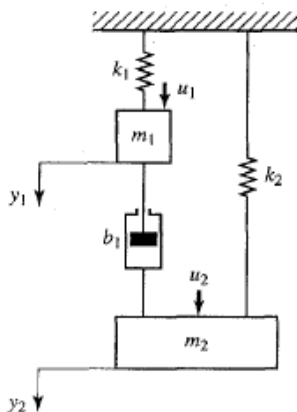

Figure 3-80
30. Obtain a state-space representation of the mechanical system shown in Figure 3-80, where u_1 and u_2 are the inputs and y_1 and y_2 are the outputs.